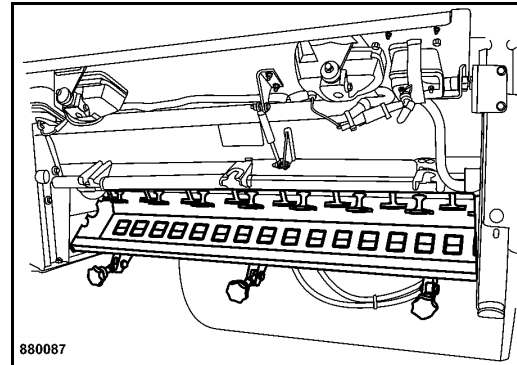

Fig. 129
- Clean the spreading beam from any dirt (Fig. 129), especially from asphalt.